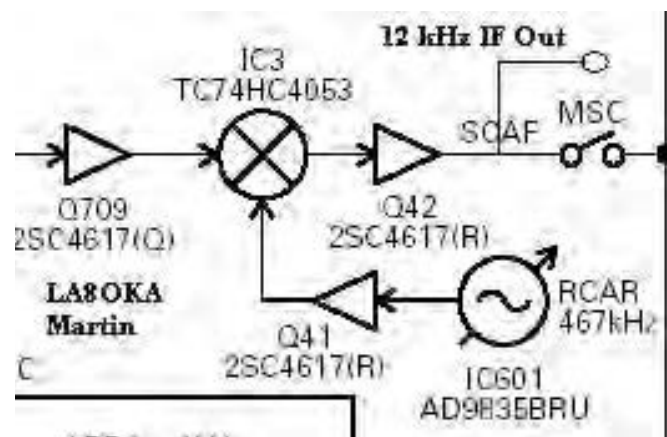
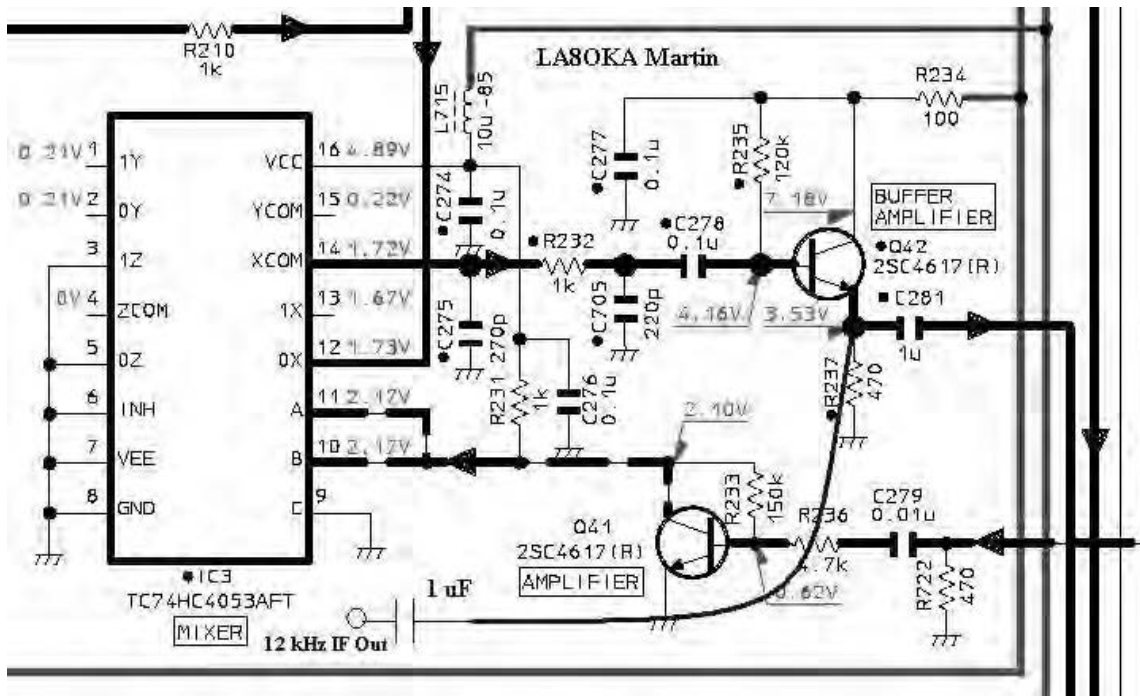

Fig. 1: Block Diagram showing the new 12 kHz IF Output in blue.
Fig. 2: Schematic Diagram showing the new 1 μ F Capacitor and the new 12 kHz IF Output in blue.
- Take a close examination of the Block Diagram in Fig. 1 and the Schematics Diagram in Fig. 2. Note that a new 1 μ F Capacitor will be connected to the emitter of the Q42 Transistor. This is the new 12 kHz IF Output.